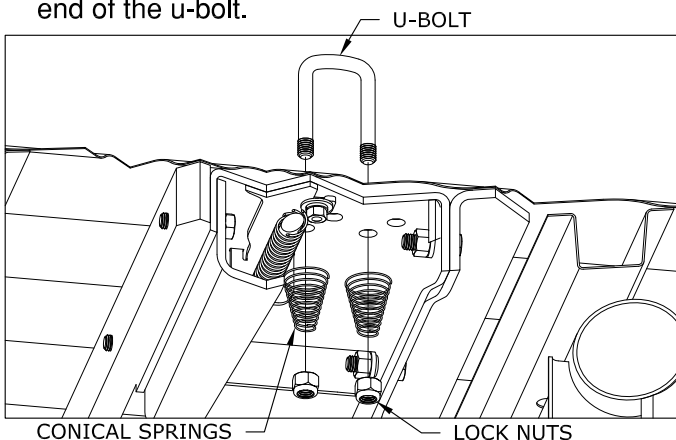

Figure G3: Cut away view of bed and center section
3. **Add springs.** Place a conical spring over each leg of the u-bolts and secure with a $\frac{1}{2}$ " lock nut, see Figure G3. Tighten the lock nut until the nut is flush with the end of the u-bolt.